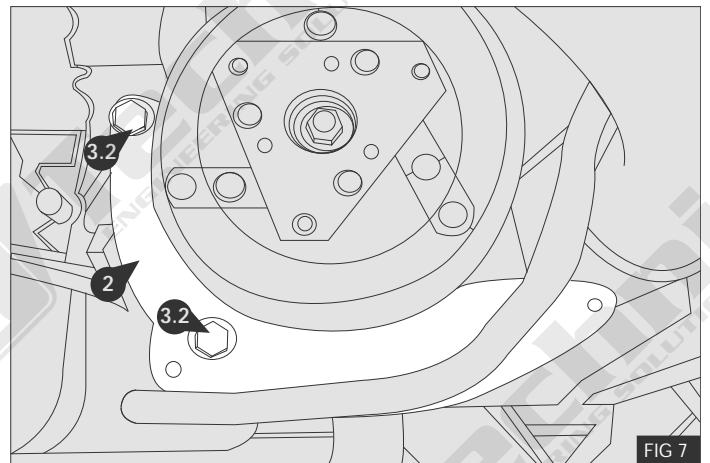

FIG 7
4. Secure the compressor to the mount bracket using bolts **3.2** and PAS support plate **2** using nut **3.9** - Fig 7.